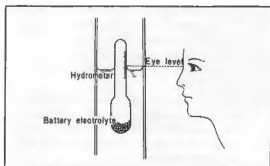

Fig. 112
- (1) Check the battery electrolyte level.
- (2) Measure the specific gravity of battery electrolyte with a hydrometer. Place a glass cylinder vertically and suck the electrolyte slowly. When the electrolyte level rises to the eye level as shown, read the scale on the hydrometer. (Fig. 112) If the specific gravity is 1.200 (as corrected 20°C or 68°F), recharge the battery.
- (3) If the electrolyte level drops excessively, check the charging system.
- (4) When distilled water has been added, measure the specific gravity after the battery has been sufficiently charged.